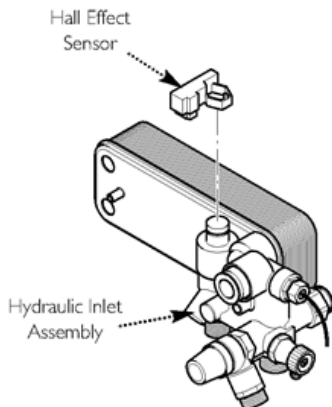

Fig. 68
13.16 Hall Effect Sensor (Fig. 68)